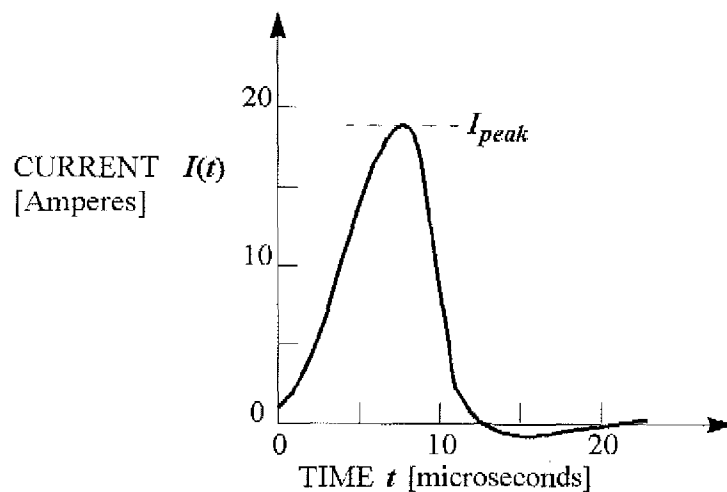

Fig 1 - Output current $I(t)$ of ADVANCED TASER M26.
(2) **Current Pulses:** When activated ("fired") the ADVANCED TASER® M26 produces a sequence of approximately half-sinewave current pulses $I(t)$ [Amperes], each having a peak amplitude of I_{peak} of about 18 Amperes, and a duration of of about 11 microseconds, see Fig. 1.